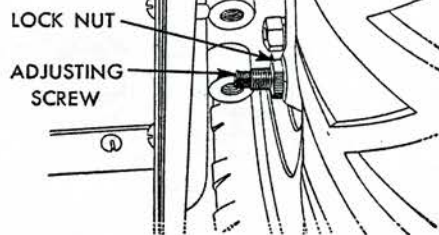

Fig. 46 Rear wheel brake adjustment. Model D
**REAR WHEEL BRAKES**—To adjust brakes, pull hand lever back to the fifth notch. Loosen lock nuts on adjusting screws, Fig. 46, turn square head screws in until both brakes are tight and tighten lock nuts.